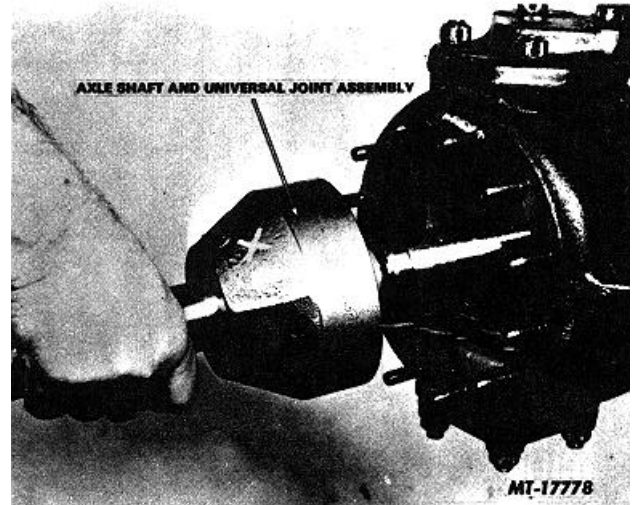

Fig. 22 Axle Shaft and Universal Joint Assembly
6. Install axle shaft and universal joint assembly in axle housing indexing splined end of axle shaft with side gear of center unit (Fig. 22). When installing axle shaft and universal joint assembly care should be taken not to damage axle shaft oil seal.